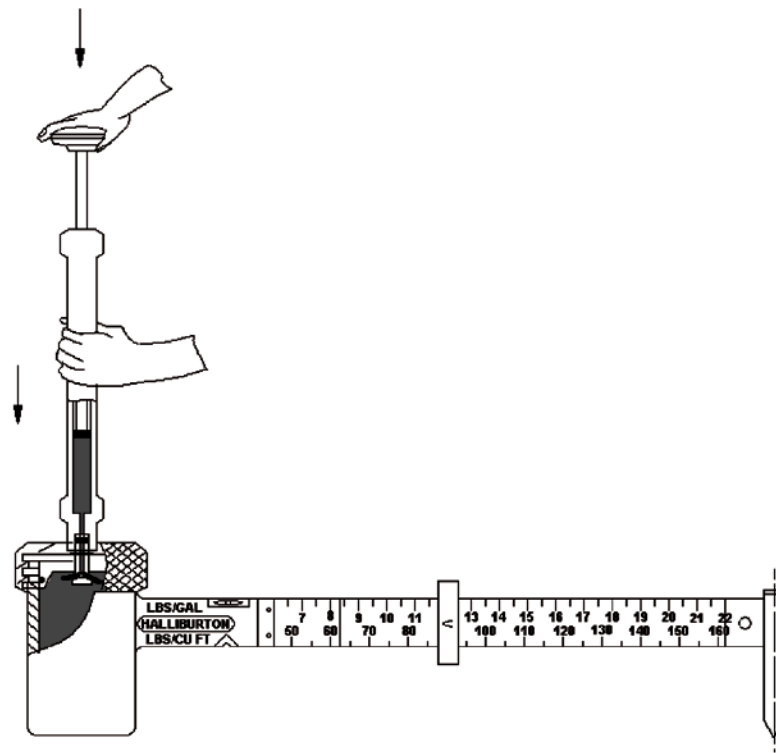

Figure 4-4 Pressurizing the sample cup
2. Push the nose of the plunger onto the check valve (Figure 4-4). To pressurize the sample cup, forcefully hold the cylinder to keep the check valve down (open); and simultaneously, apply and maintain approximately 50 lb of force on the piston rod.